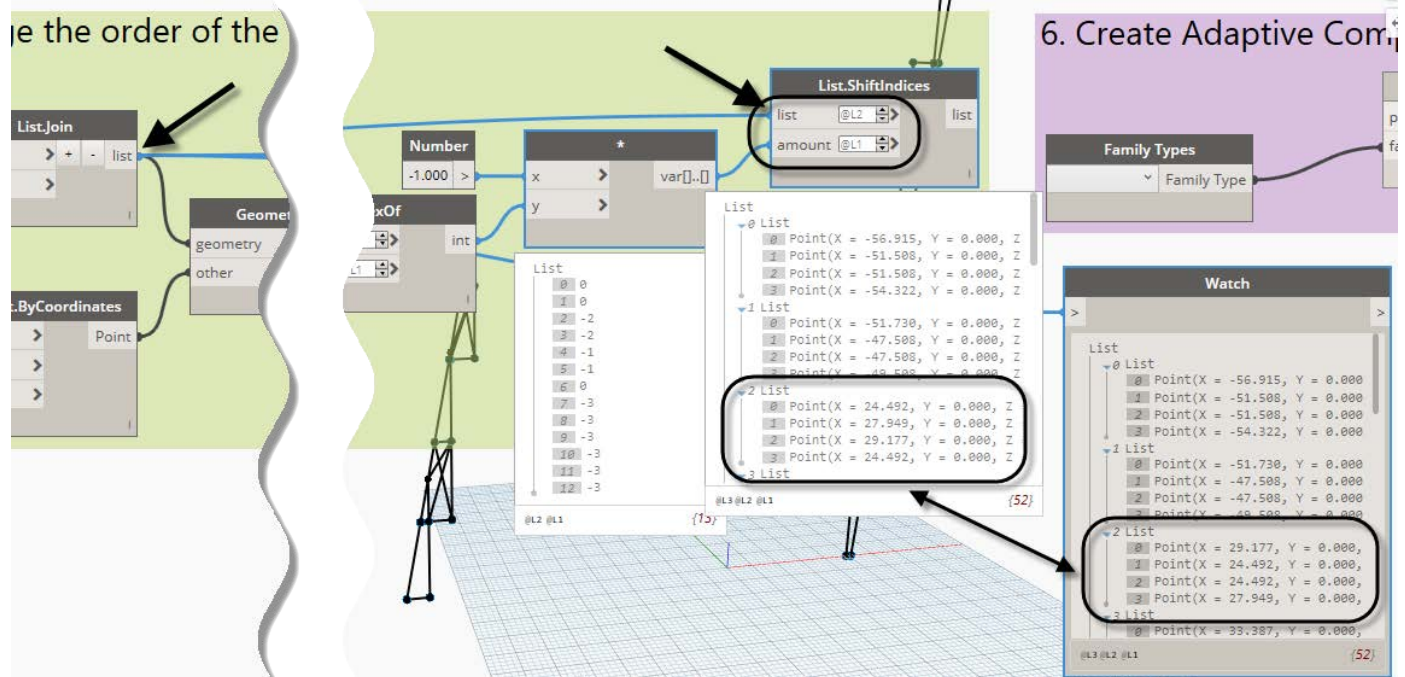

Figure 82
66. Turn on list at level for both **list** and **amount**. Set **list** to @L2 and **amount** to @L1 and then run the graph (see Figure 82).